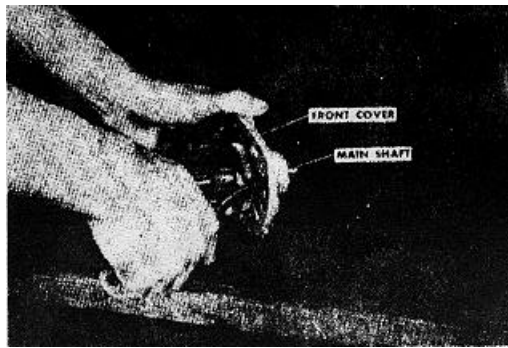

Figure 4-30. Remove snap ring
3. Remove the drive bearing snap ring. It will not be necessary to remove the ring from around the drive shaft. Fig. 4-30.